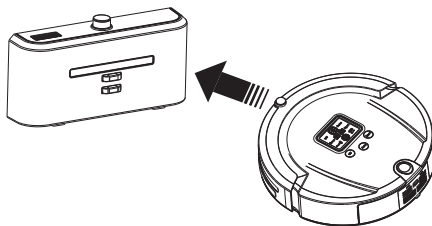

Figure 6
- Three full bars indicate that the vacuum is fully charged; one bar missing indicates decreased power; and three bars missing indicates that the vacuum needs to be fully charged (Refer Fig 6).